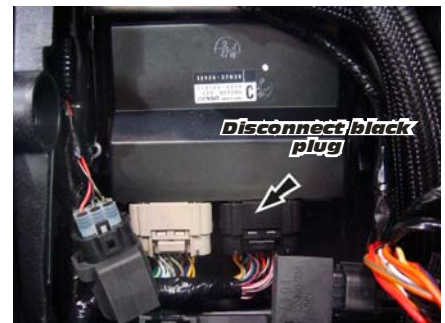

Fig. 2
3. With ignition in the OFF position, disconnect the black wire harness plug from the ECU. See Fig. 2